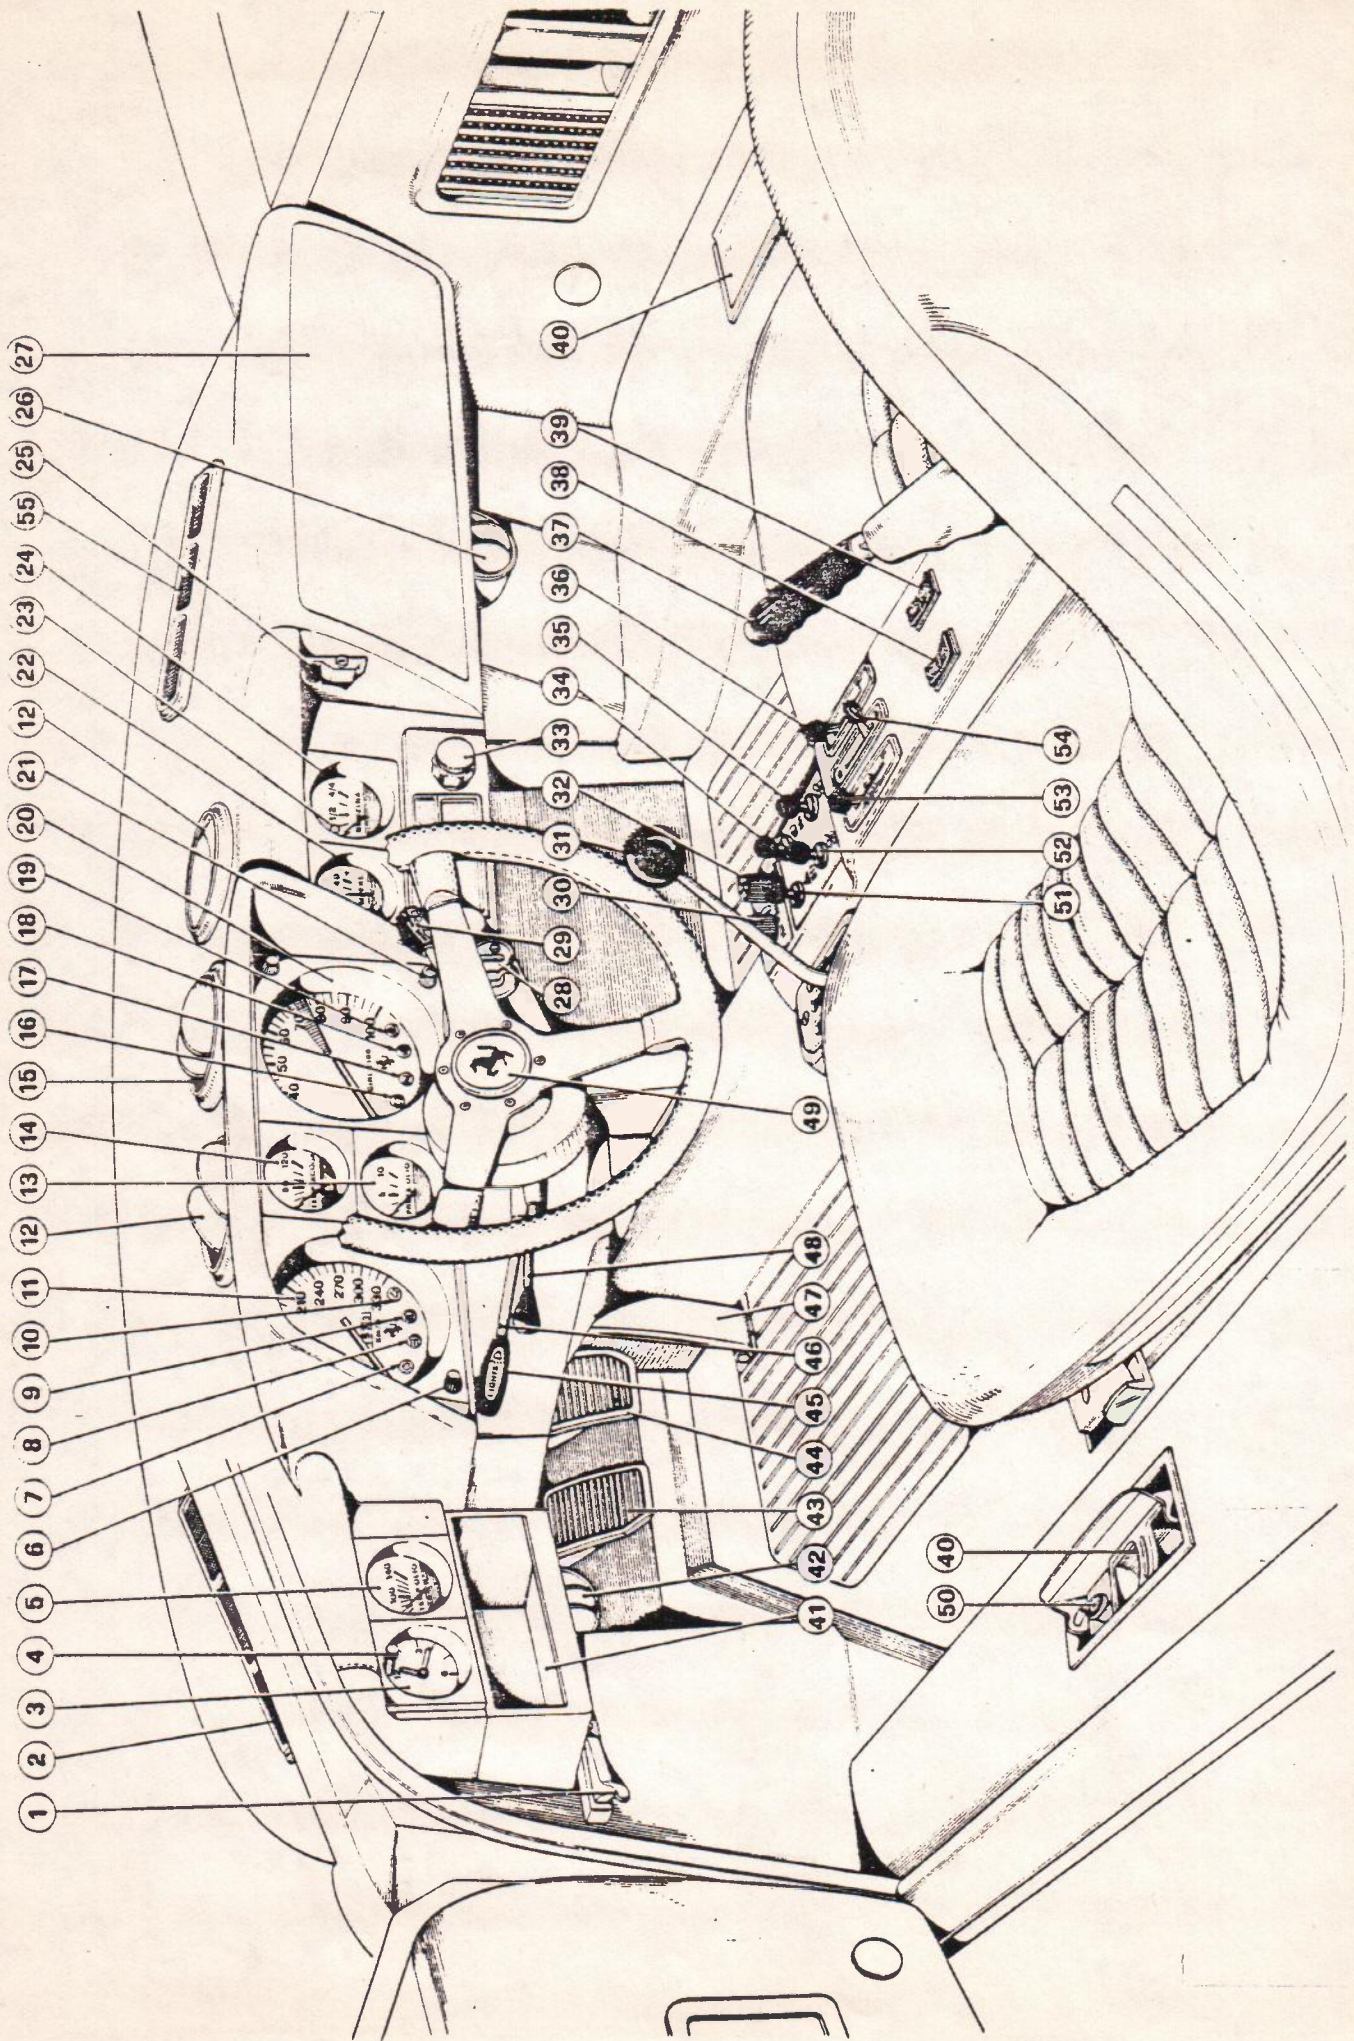

Fig. 1 - Commands and Controls Instrumentation
- 0: Locked (steering blocked, key removal. The lights can be operated via switch 45 located on the main beam/dipped beam control lever 46 which can be moved in three positions (Fig. 1).
The system is made up of an electric motor-reducer assembly which actuates two wipers. It operates at either low or high speeds which are controlled by control lever 29 (Fig. 1).